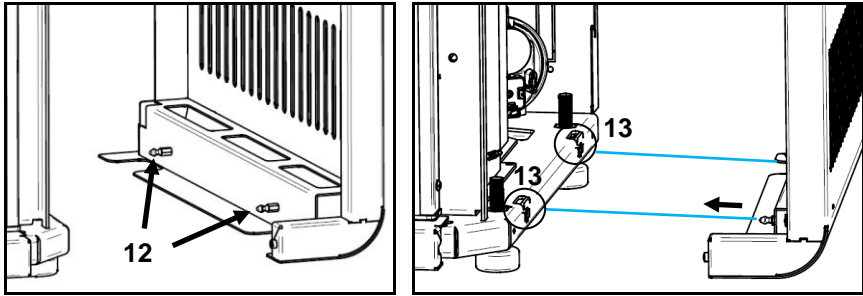

Figure 45 - Assembly of Olive covers
k) Then place the side covers; first fitting the tabs **10** on the slots **11** and then fitting the bolts **12** of the casing on the springs **13**, as shown in Figure 45.